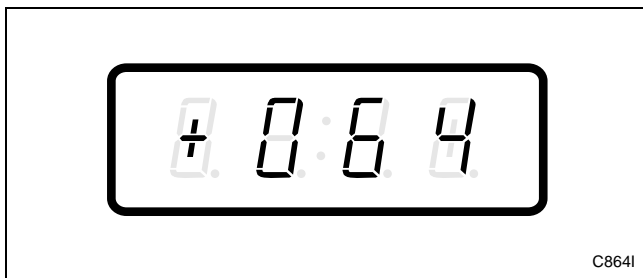

Figure 82
3. Press the DELICATES (+) or the COLD (-) keypad to scroll through the programmable options until “+064” appears in the VFD. Refer to *Figure 82*.